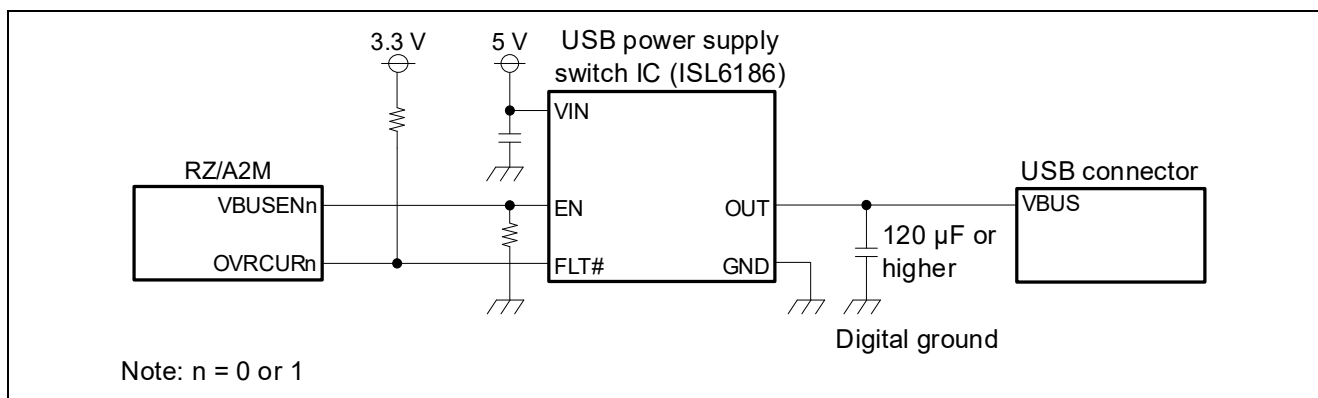
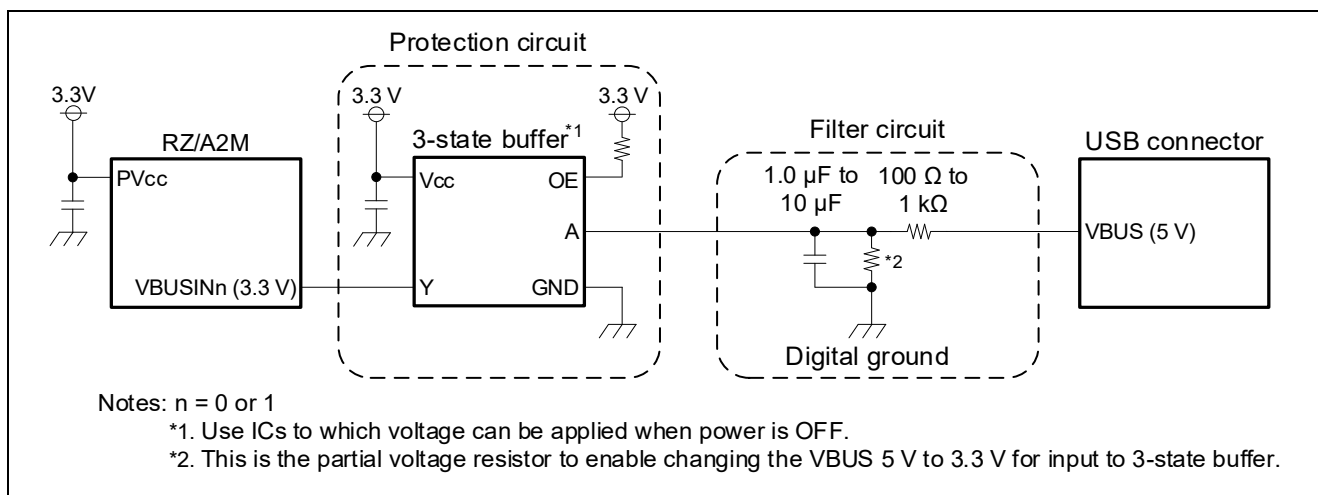

Figure 5.1 Example of VBUS circuit for using RZ/A2M as a host controller
Figure 5.2 Example of VBUS circuit for using RZ/A2M as a function controller
- When the RZ/A2M is used as a USB function module, if the RZ/A2M power supply is OFF and the USB host module is connected, voltage that exceeds the absolute maximum rating^{*1} might be applied to the RZ/A2M VBUSIN input pin, and it may permanently damage the LSI. In order to avoid this, refer to the protection circuit shown in Figure 5.2 and ensure that the RZ/A2M is protected.
Figure 5.1 shows an example of the VBUS power supply circuit when it is used as a host controller and Figure 5.2 shows an example of the VBUS power supply circuit when it is used as a function controller.
10	Figure 5.2: Addition of dotted line to indicate protection circuit, changed CR location